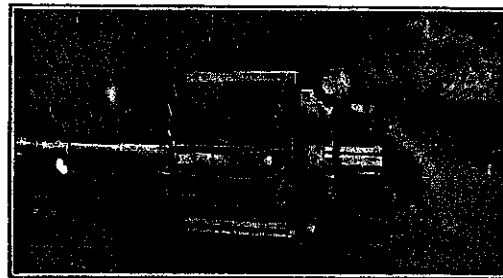
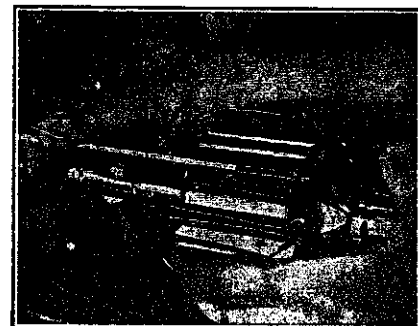
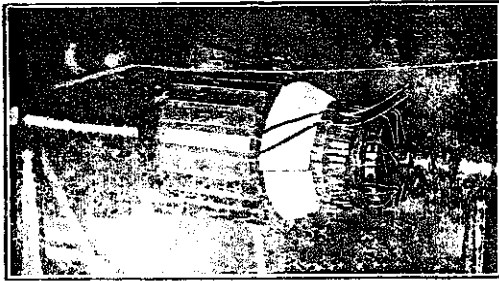
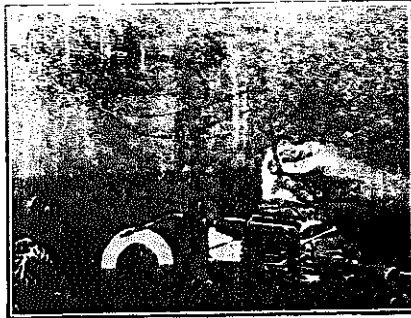

Figure 1
Figure 2
Figure 3
Figure 4
Next remove all 4 field coils. Use No. 18 P.E. wire, two strands in hand and wind 4 field coils to same size and shape as coils just removed. Wind these coils carefully, winding 57 turns per coil. Tape shape, then varnish. Connect all field coils in parallel, see Fig. 2 and "Schematic Connection Diagram." The two main brushes are only brushes used, thus eliminating control brush. Connect one field lead to generator terminal and other field lead to main ungrounded brush. Other main brush is already grounded. Be sure to use best brushes obtainable. Connect 6 volts to generator frame and generator terminal. Polarity has no effect. If motor runs in wrong direction, reverse the field leads. Lubricate as you do car generator.
When winding an armature, the job can be simplified by mounting the armature into a rack such as shown in Fig. 4. A rack of this nature can be easily constructed of wood by having the upright pieces mounted on a solid base and using wood screws or nails to form the points which fit into the center holes in the ends of an armature shaft.
The first step after the armature has been stripped is to test each bar to see that there is no short between it and the bar on either side of it or to the shaft. This can be done by means of the lamp test as described above. If any shorts or grounds appear they will have to be cleared by means of scraping away any foreign substances from between the bars and the shaft. If this cannot be done, it will be necessary to replace the commutator. Next, insulate that portion of shaft between the core and the commutator by means of adhesive tape or gummed paper as shown in Figure 1. This figure also shows the end laminations and armature insulation paper in place. Figure 2 shows an advanced stage in winding, with several coils wound, also showing some of the slots closed by means of the wooden wedges. Figure 3 shows the slots all closed. Note carefully how the tail end wire of each coil is folded back to
Where it is necessary to wind with two wires in each coil, such as is done on the Dodge 19 bar job and all Delco-Remy generators, Fig. 4 shows this work simplified by means of using two spools to take the wire from. This can also be done by having two wires wound on one spool but care must be used to see that each wire is followed through carefully as the wires should not be mixed; see instruction sheet of the armature to be wound.
The coil consists of a primary winding of 238 turns tapped at the 238th turn, and a secondary of 105 turns tapped at the 105th turn. Prepare a winding spool of hard wood, to the dimensions given in Fig. 1. Fasten the spool end (1) to the large end (X) of the spool drum (2) with flat head wood screws, and fasten spool ends (3) and (4) to the terminal panel.
Build up the iron core as in Fig. 2. Requires 17 to 18 lbs. of 26 ga. silicon steel. All core dimensions are given in Fig. 2 and Fig. 3. In Fig. 3, "First Layer," and "Second Layer," explain the method of arranging the alternate layers. Stagger all joints as shown in these diagrams, and be sure to fit all joints accurately. Tight joints in the core iron will prevent power loss and overheating. Use sufficient metal in the core to give a stack $1\frac{1}{2}$ " thick when compressed. A total of 93 pieces to each of the four sections.
Form the four core clamps according to Fig. 4. Carefully clamp one end of the core, drawing the $\frac{1}{4}$ " bolts up snugly enough to hold the core while the clamps are put on the other end. Now tighten both clamps, and wrap one layer of armature paper on the core leg that is to hold the coil. Over the paper, wrap one layer of "Empire Cloth" or varnished cloth, starting at the bottom, and spiraling toward the top. Allow it to overlap a little less than half its width. A little of the insulating varnish applied to the under side of the cloth as it is wound will hold it. Trim away the surplus cloth and allow the varnish to dry. In the centers of two 5" squares of $\frac{1}{4}$ " fiber (11, Fig. 6), cut openings one and thirteen-sixteenths by two and one-sixteenth inches. Take off the top core clamp and carefully remove the end section of the core as shown in Fig. 4. Slip one of the fiber squares over the cloth covered core leg, slide
Lay out and drill the terminal panel made from $\frac{1}{4}$ " tempered pressed wood obtained from lumber yard. Form loops in the ends of the secondary leads by wrapping them around the brass bolts forming the secondary terminals. Run solder over these loops, Fig. 4. Cut the brass buss bar in the double outlet, removing enough of it so that no short will be possible between the high and low primary leads, which are connected to the two resulting terminals as shown in Fig. 6. The primary common lead (4) is connected to the brass buss as is, thereby making contact with both outlets, Fig. 6. Connect the secondary leads to their proper terminals, Fig. 6, and label them. Bolt the panel in place on the core clamps.
The core, Fig. 1, compresses to a thickness of 2 $\frac{1}{2}$ " and is built up to the specifications in Fig. 2.
The coil is wound on a spool (Detail 3C). Lay 24" pieces of strong string along the four sides of the spool drum, and over them a double layer of armature paper (.010) is bound in place with thread. (Fasten the ends of the string out of the way by means of small tacks on the outsides of the spool ends.) Over this paper, wind the primary (Fig. 4 and Fig. 3 key), tapping the winding at various number of turns as indicated. All terminal leads (1), (2), (3), (4) and (5) are of No. 8 wire. They are all 12" long and are labeled. Taps are bound to the main wire with fine copper wire, the joints soldered and taped. Fasten lead (5) with tape and wrap the primary with two layers of armature paper and one layer of varnish cloth .007 thickness, bound with thread.
Fig. 3 shows the completed transformer. Detail 3A shows the construction of the core clamps and the terminal panel ($\frac{1}{4}$ " or $\frac{1}{8}$ " tempered pressed wood, obtained at lumber yard) which mounts to clamp (6). Mount the clamps and panel.